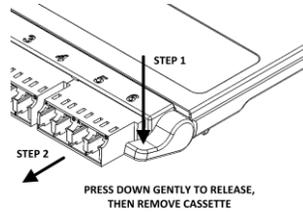

Figure 15
4. To Remove Press down on the release button and slide the cassette or adapter plate forward to remove (Figure 15).